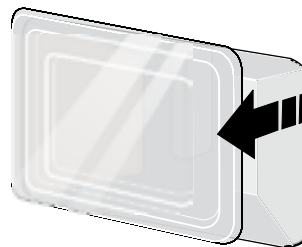

Figure 4 - Lift backside of glass shield and remove it.
2. Remove light shield as illustrated below (fig. 4).